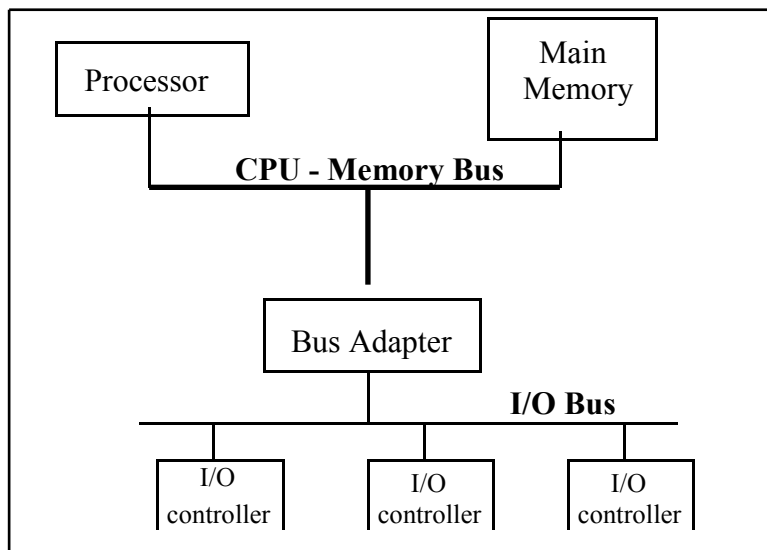

Figure 8.3: CPU-memory bus and I/O bus
- ⇒ In addition, this bus would be connected to a second I/O bus via a bus adapter, as illustrated in Figure 8.3.